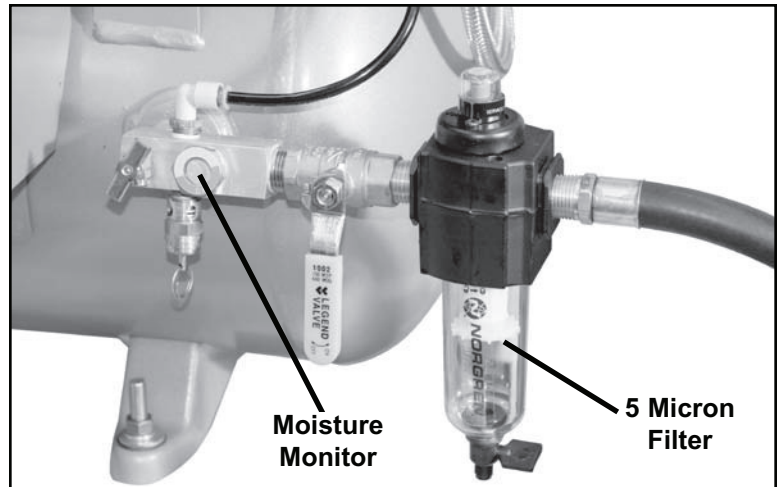

Figure 5. Moisture Monitor and 5 Micron Filter Location
- Periodically inspect the Moisture Monitor. A “blue” Moisture Monitor indicates that the air in the storage tank is dry. A “pink” Moisture Monitor indicates a high level of humidity in the storage tank. To correct this situation, see TROUBLESHOOTING page 12. See Figure 5.
- The only consumable parts on the AIRSTAR are the intake filter and the 5-micron exhaust filter element. See Figure 5. When replacing either filter, dispose of the removed filter in accordance with local codes.